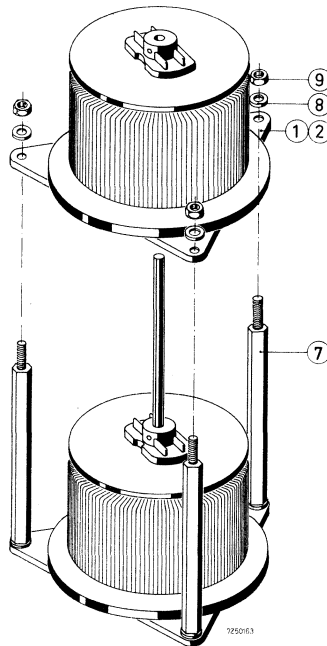

Fig. 5
5. Mount the second transformer on spindle and distance rods pos. 7 as shown in Fig. 5; do not fix the spindle.
7. Mount the third transformer on spindle and distance rods as shown in Fig. 5; do not fix the spindle.